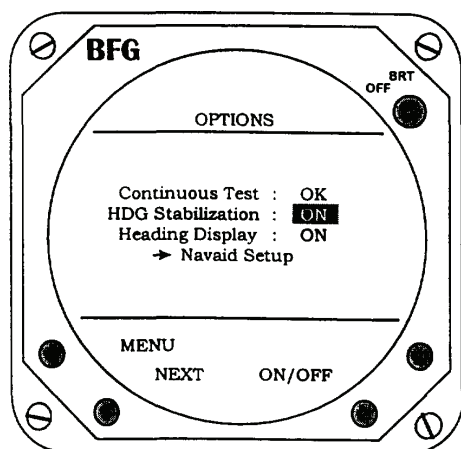

Figure 3B-156. Heading Options
(6) *Navaid Option.* This option creates a weather avoidance and navigational view. Refer to Figure 3B-158. Using data from the KLN-90B, this option provides simultaneous display of both thunderstorm and flight information on the system screen. The course line, selected waypoints, and a course deviation indicator are graphically displayed. Up to ten waypoints may be display with the selected nautical mile range. The CDI is calibrated to indicate the course deviation up to 5 nautical miles on either side of the course line. Up to six user-selectable data items can be displayed. The navaid option is selected from the main menu. Display range, ground speed, estimated time en route, bearing, crosstrack error, and estimated time of arrival are automatically displayed. The data or its position can be changed through the Navaid Setup function on the Options menu.